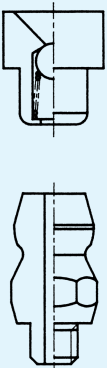

Fig. 1 Shapes of grease nipple
Note (1) Shapes of grease nipple are shown in Fig. 1.
(2) Right hand thread is indicated with no code.